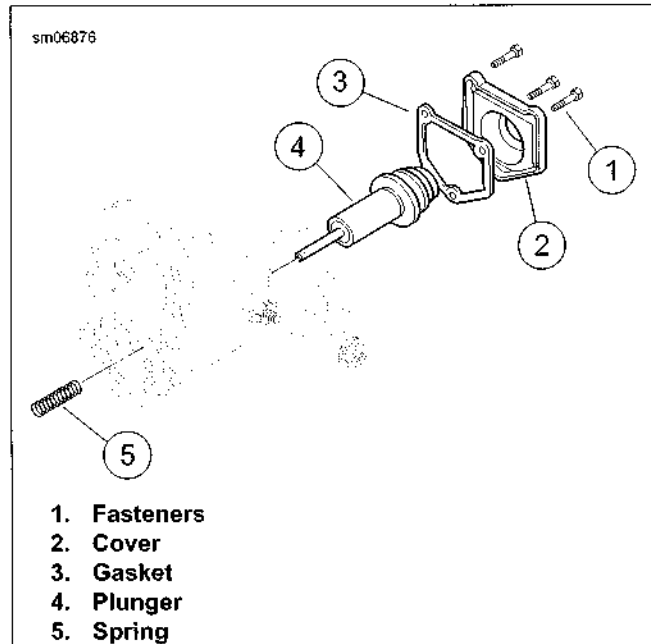

Figure 6-20. Solenoid Plunger
1. See Figure 6-20. Remove fasteners (1), cover (2) and gasket (3).
2. Remove the plunger (4) with spring (5).